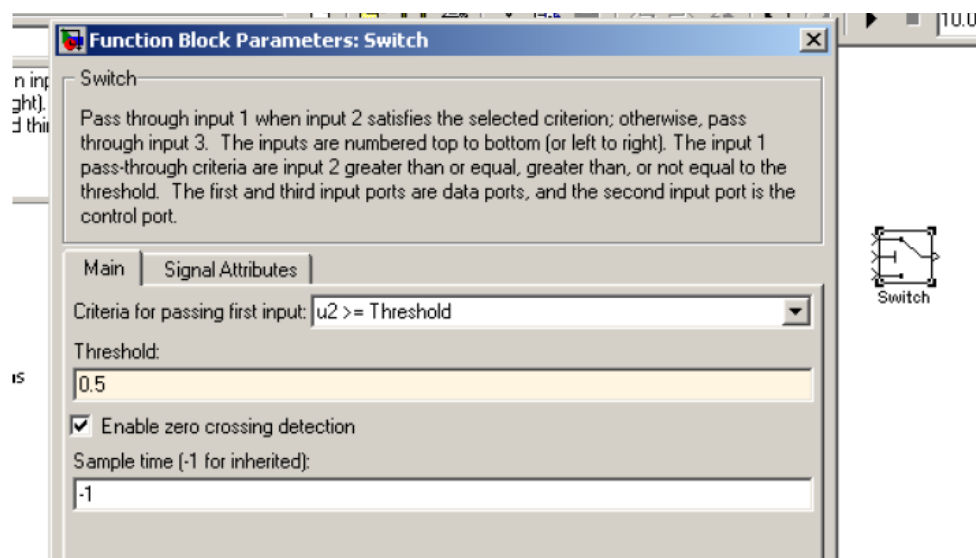
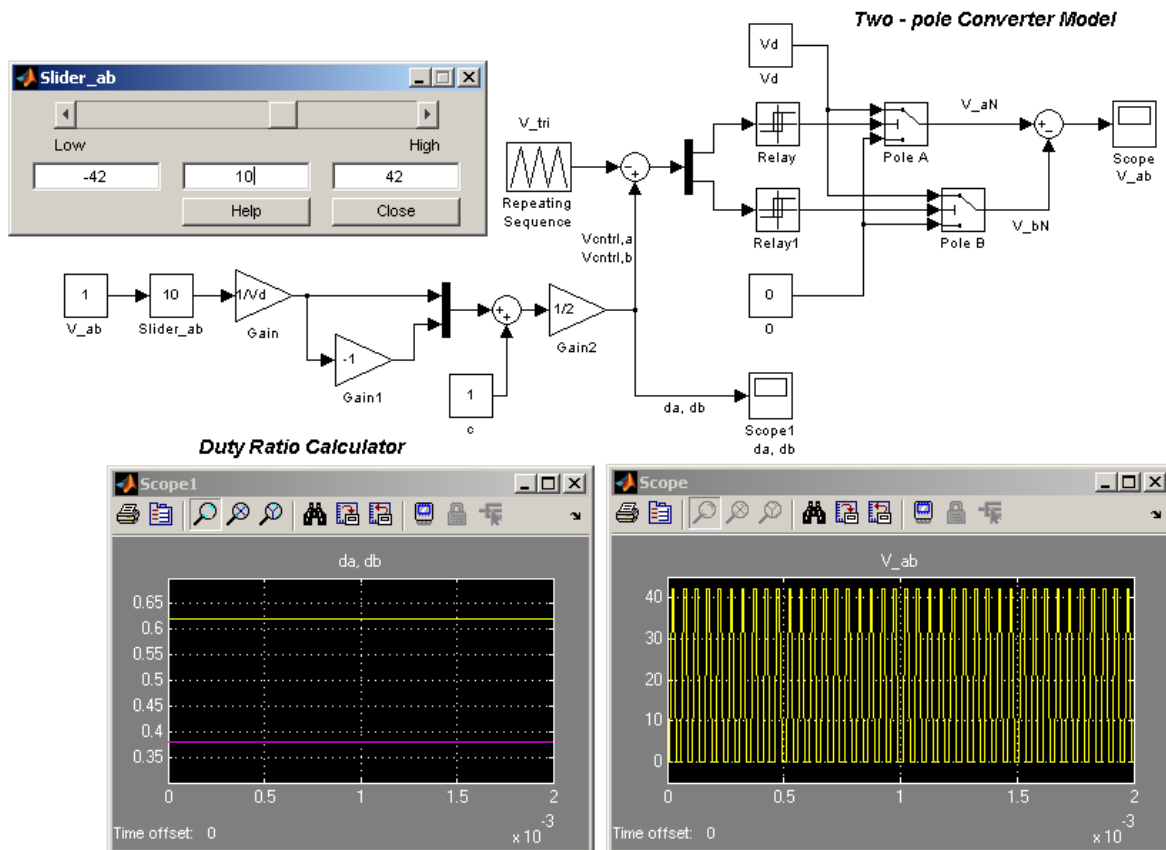

Figure 2.4: Settings for switch block
Figure 2.5: Two Pole Switch-Mode Converter Model in Simulink
Equations (7) and (8) describe the control voltages of the two poles A & B depending on the desired output voltage $\bar{v}_o = \bar{v}_{ab}$. These equations will be implemented in Simulink (Fig. 2.4). Also, the switching power-poles will be modeled using a **Switch**. The **Relay** blocks provide the switching functions for the poles q_a and q_b . Depending on the value of the switching function, the **Switch** outputs the pole-voltage as follows:
Create the Simulink model as shown in Fig. 2.5. The **Switch** block can be found in **Simulink** → **Signal Routing**. Change the threshold voltage of the switch to 0.5 (Fig 2.4), or to any number greater than 0 but less than 1. Can you tell why?
dSPACE provides a block called **DS1104SL_DSP_PWM3**, which embeds the triangular waveform generator and the comparator for all converter poles. The inputs for **DS1104SL_DSP_PWM3** are the duty-ratios for the poles. In Fig. 2.5, the lower part of the model is called the *Duty Ratio Calculator*. This part of the model will again be used in the real-time model to generate the pole duty ratios. The triangular wave generator and comparison using relays will be replaced by **DS1104SL_DSP_PWM3**, as these functions are internal to the block. Two legs of the drives board (refer appendix ‘A’) will replace the two poles (modeled using the **Switches** in Simulink).